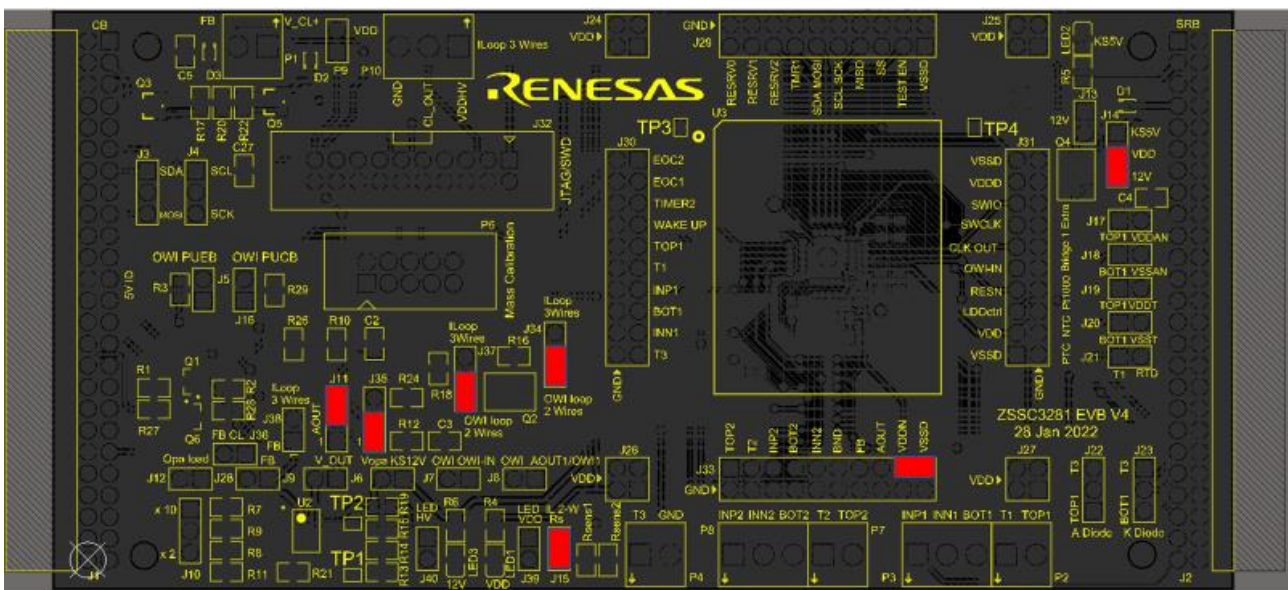

Figure 129. 2-Wire Current Loop Jumpers
- Ensure that VDDN is shorted to GND (J33) as displayed in Figure 129.